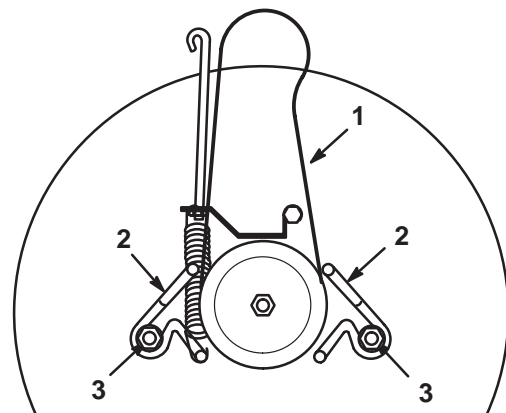

Figure 41
- Loosen the belt guide mounting bolts and move the belt guides away from the pulley (Fig. 41).
1. Install the new blade drive belt around the blade pulley and inside both of the belt guides (Fig. 41).
2. Adjust the belt guides so they are 1/8 in. (3 mm) away from the pulley. Tighten the mounting bolts (Fig. 41).